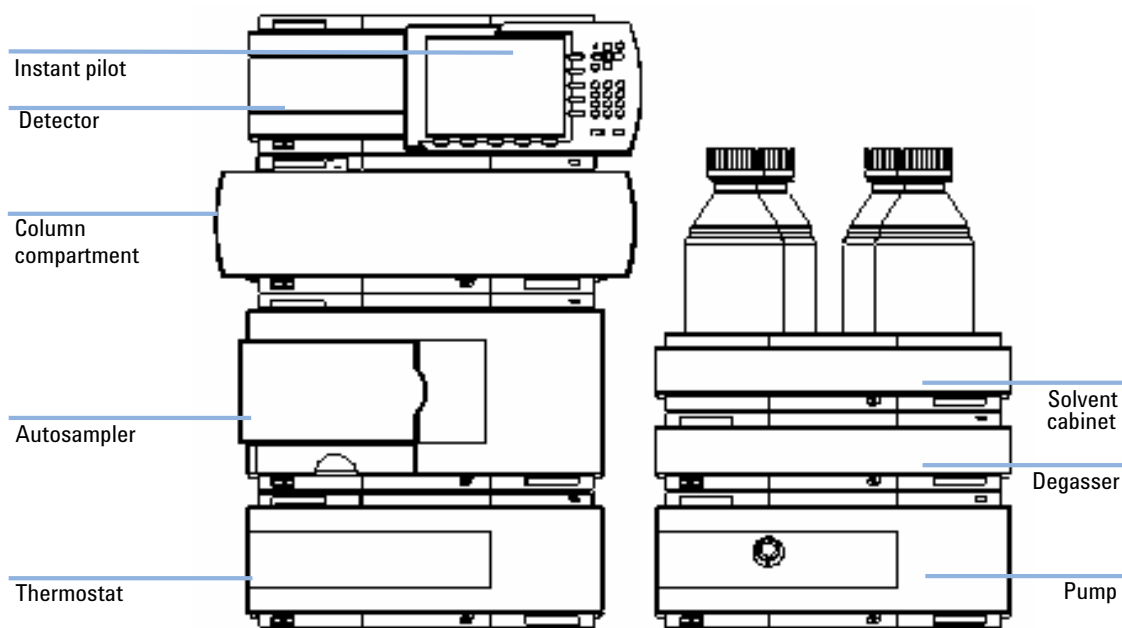
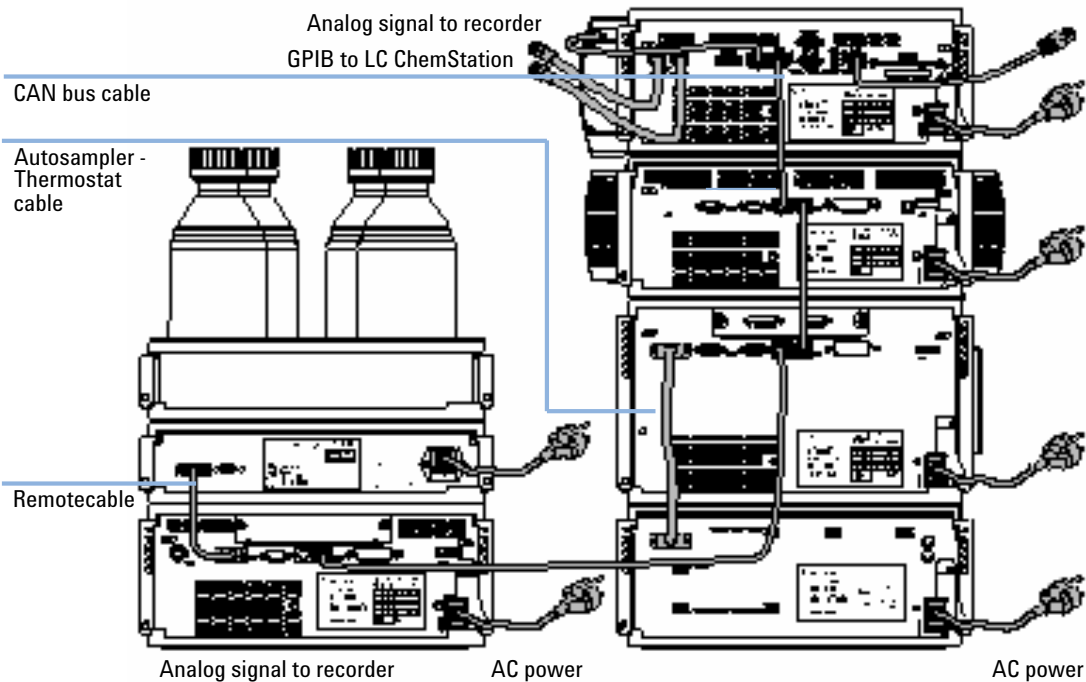
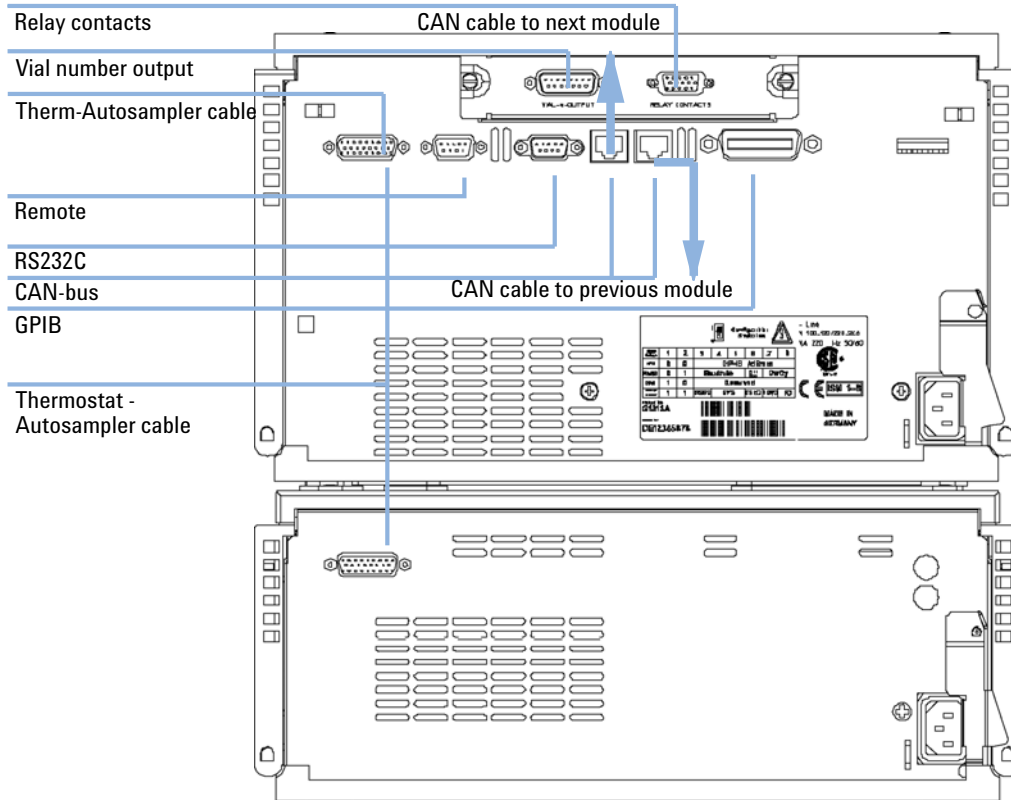

Figure 4 Recommended Stack Configuration (Front View)
Figure 5 Recommended Stack Configuration (Rear View)
Figure 11 Cable Connections.
If your autosampler is part of a system, you can ensure optimum performance by installing the autosampler in the stack in the position shown in Figure 4 on page 22 and Figure 5 on page 23. This configuration optimizes the system flow path, ensuring minimum delay volume.
- 5 Connect the CAN interface cables to other modules in the system (see Figure 5 on page 23 and Figure 11 on page 32).
- 6 If required, connect additional interface and control cables to the autosampler (see Figure 5 on page 23 and Figure 11 on page 32). Refer to the documentation of the Agilent 1200 Series control module or ChemStation for LC for more information.
7 Connect additional cables as required (see Figure 11 on page 32).